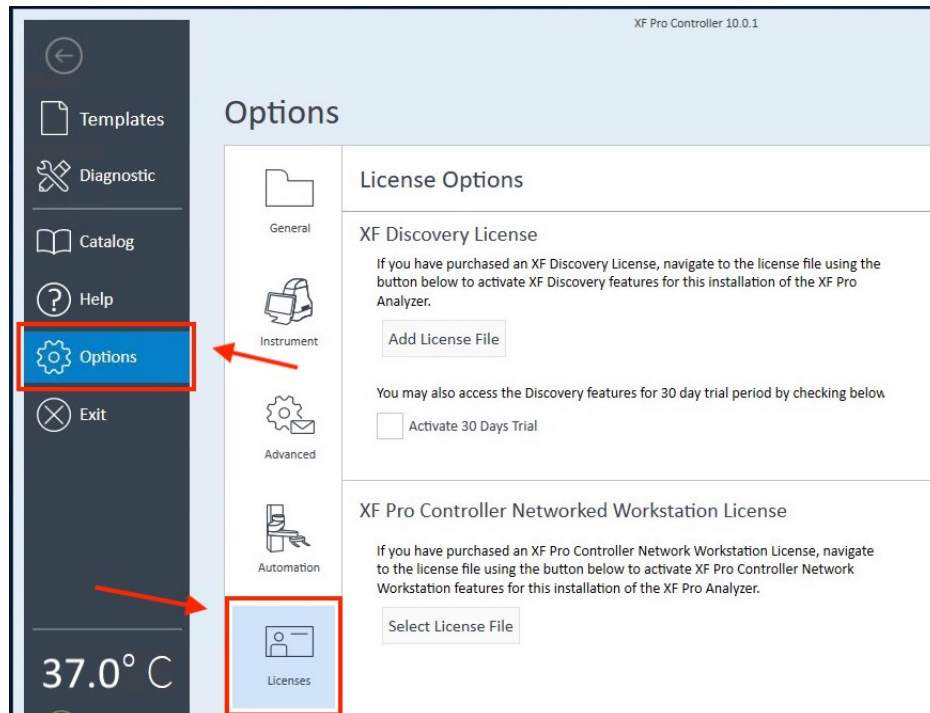

Figure 77. SWLIC-F10
- 4 Using the left-side navigation, click **Options > Licenses** (Figure 77).